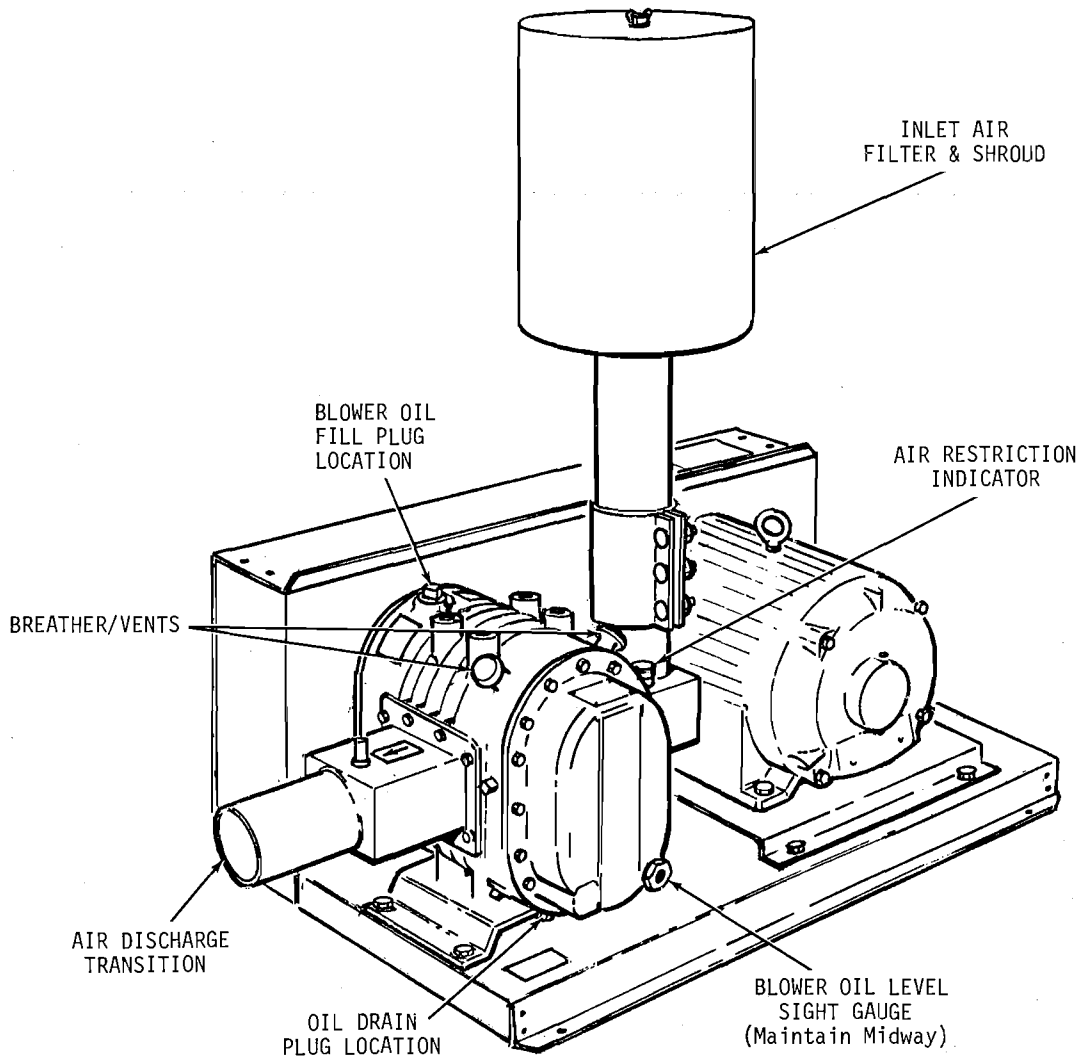

FIG. 19 - BLOWER UNIT ASSEMBLY SERVICE POINTS (TYPICAL)
2. Blower Oil Level (Fig. 19) - Check daily and change oil after every 500 hours of operation, or six month intervals (change more often under SEVERE operating conditions).
3. Blower Case Breather/Vent Plugs (Fig. 19) - Clean every 200 hours of operation.